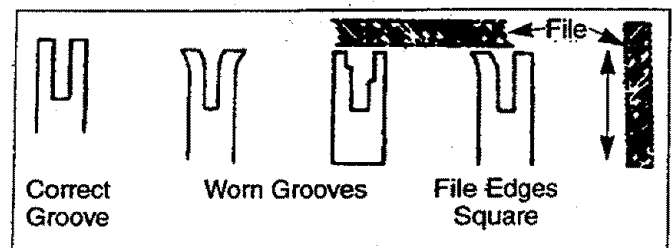

Figure 29
- Burring of bar rails is a normal process of guide bar rail wear. Remove these burrs by filing guide bar rail side edges square with a flat file. Figure 29.
- Restore square edges to an uneven rail top by filing with a flat file. Figure 29.